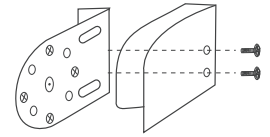

Fig. 1
- a. Install one of the Valance Brackets to the bracket (fig. 1).